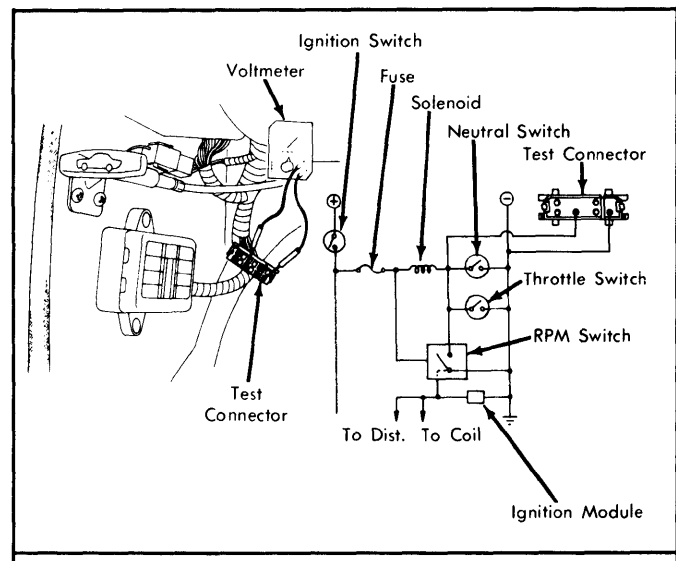
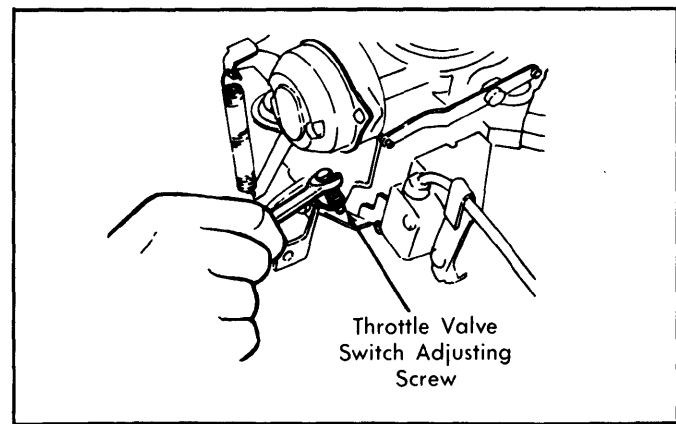

Fig. 4: 1979 210 Fuel Shut-Off System Test
Fig. 5: Adjusting Throttle Valve Switch
2) Reconnect solenoid connector and restart engine. Connect a voltmeter to test connector terminals. See Fig. 4. Depress clutch pedal and shift transmission into 5th gear.
3) With clutch pedal depressed, increase engine speed to 3000 RPM. Quickly close throttle valve and check voltage. Voltmeter should read zero (0) during acceleration, 12 volts during deceleration.
4) Shift transmission into Neutral and repeat test. Voltmeter should read zero (0) during acceleration and deceleration. If not, check Neutral detecting switch, harness, and connections. Repair or replace as necessary.
6) Throttle valve switch should turn on when engine speed reaches 950-1350 RPM. Slowly decrease engine speed and note RPM at which throttle turns off. Throttle switch should turn off at 800-1200 RPM. If not, adjust switch until it turns on/off at specified RPM. See Fig. 5.